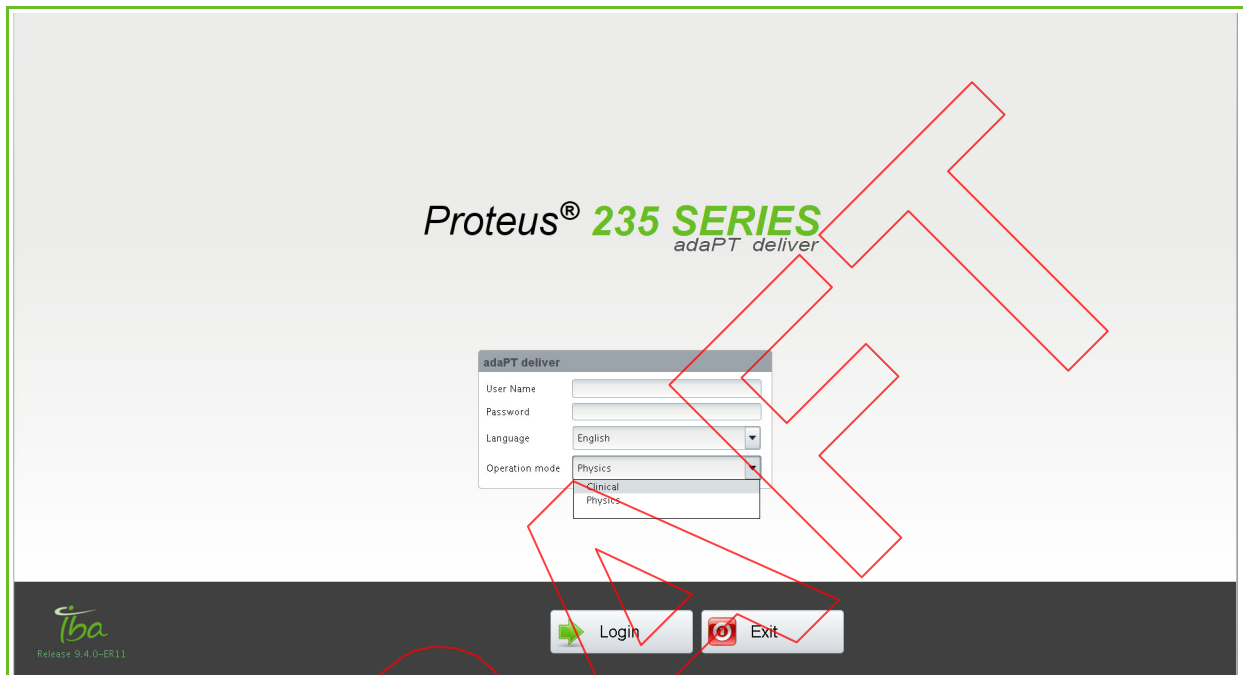

Figure 31-5. adaPTdeliver Login Screen
After a few seconds, the ADAPTDELIVER LOGIN SCREEN appears (see Figure 31-5).
2. Click **Exit** from the ADAPTDELIVER LOGIN SCREEN (see Figure 31-5).